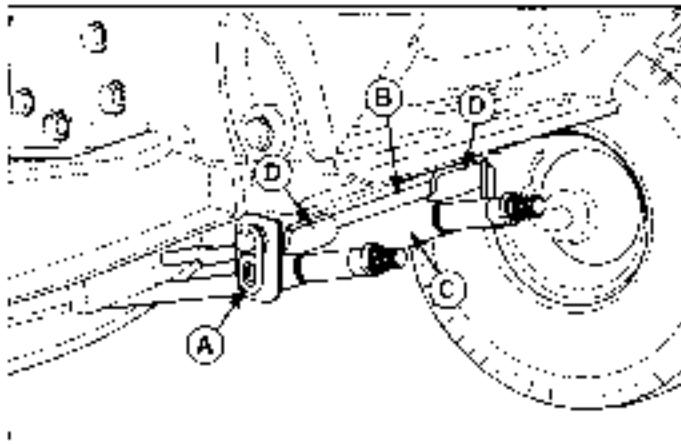

Figure 16. Mower Hitch
- Turn wheels straight ahead. Support the mower hanger (C). Remove safety clip (A, Figure 16) and rod (B). Lower the mower hanger (C).
- Turn wheels straight. Lift the mower hanger (C, Figure 16), insert rod (B) through mower hanger (C) and tractor brackets (D). Secure with safety clip (A).